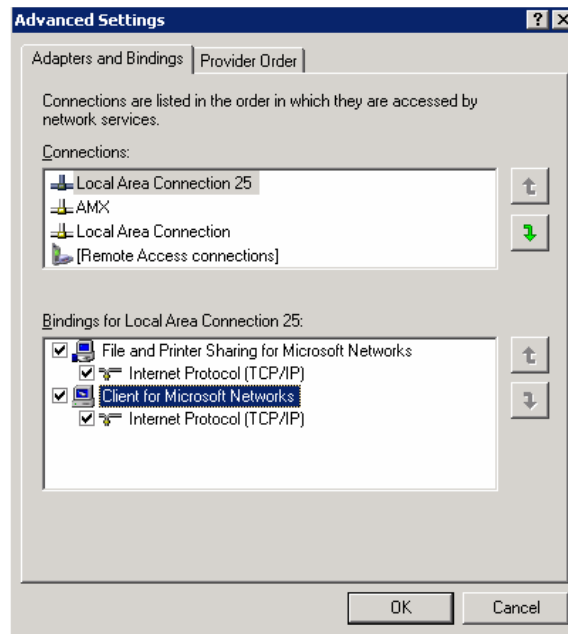
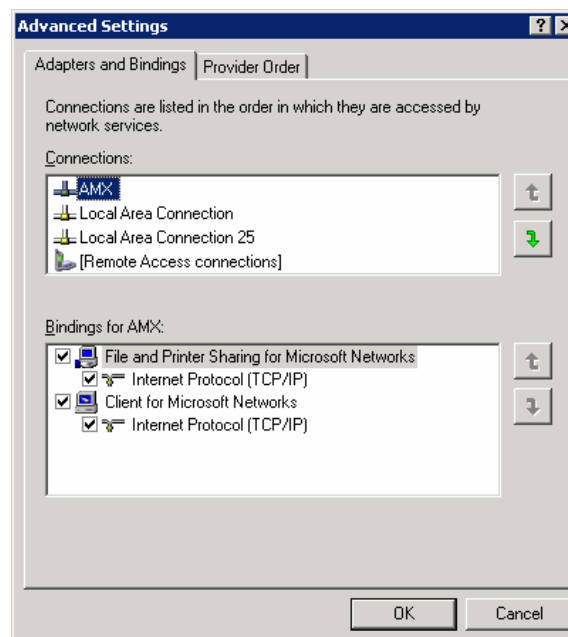

FIG. 96 Advanced Settings window
FIG. 97 Moving the Local Area Connection
- From the *Advanced* menu, select *Advanced Settings...* to open the *Advanced Settings* window (FIG. 96).
- Under the *Adapters And Bindings* tab, the user needs to make sure the *Local Area Connection* is not at the top of the *Connections* list. If it is at the top of the list (FIG. 96), select it and use the *down* arrow to the right of the list to move it to the bottom of the list (FIG. 97).